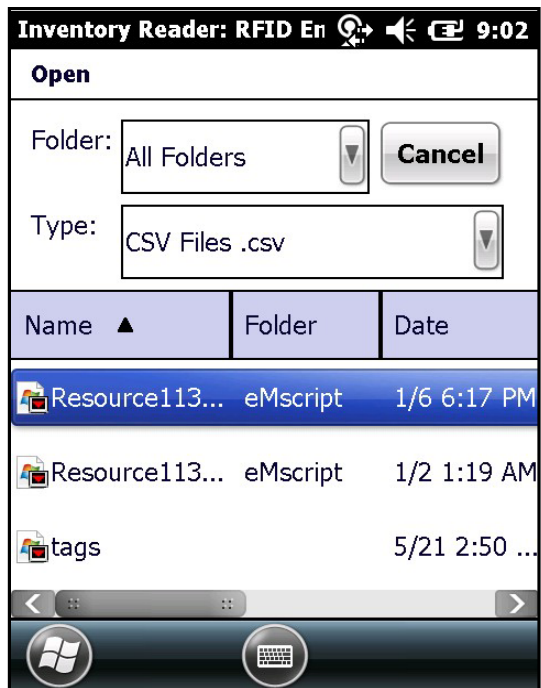

Figure 5-3 Opening a .csv File
1. Select the **Import Tags** button to import a list of saved tags from a .csv file. The window in Figure 5-3 displays.